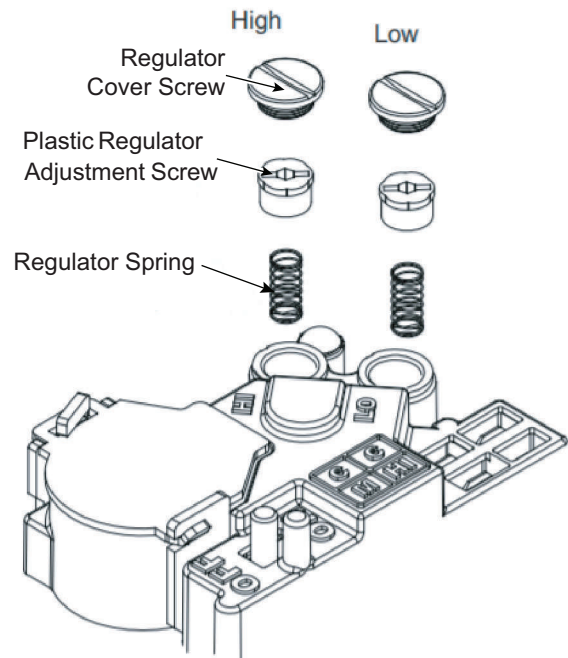

Figure 6. Sanhua two-stage gas valve
- b. Attach a manifold pressure gauge with flexible tubing to the outlet pressure boss marked OUT P on the Sanhua gas valve. See Figure 6, p. 10.
3. Remove the protection cap on the pressure regulator. See Figure 6, p. 10.